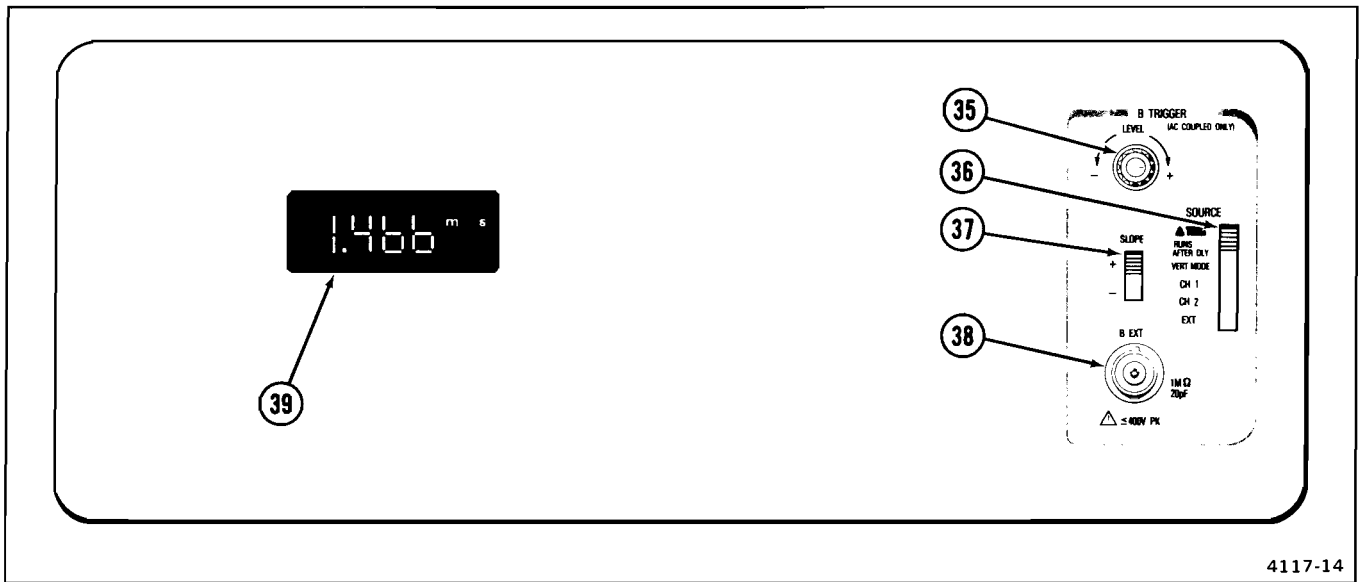

Figure 2-7. B TRIGGER controls, connector, and LCD readout.
Refer to Figure 2-7 for location of items 35 through 39.
- ③⑤ **LEVEL Control**—Selects the amplitude point on the trigger signal at which the sweep is triggered. This control is usually adjusted for the desired display after Trigger SLOPE and SOURCE switch settings have been selected.
- ③⑥ **SOURCE Switch**—Determines the mode of operation for the B Sweep and the signal source for the B Trigger.